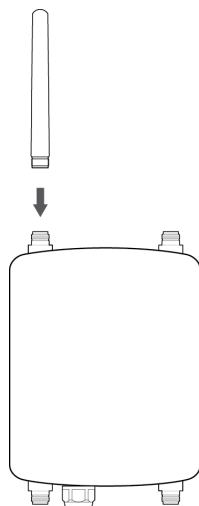

Figure 22. Installing Antennas to the Access Point
1. Screw a 5GHz antenna into the 5GHz antenna connector on the top panel of the access point. Refer to Figure 22.
3. Screw a 2.4GHz antenna into the 2.4GHz antenna connector on the top panel of the access point. Refer to Figure 22.